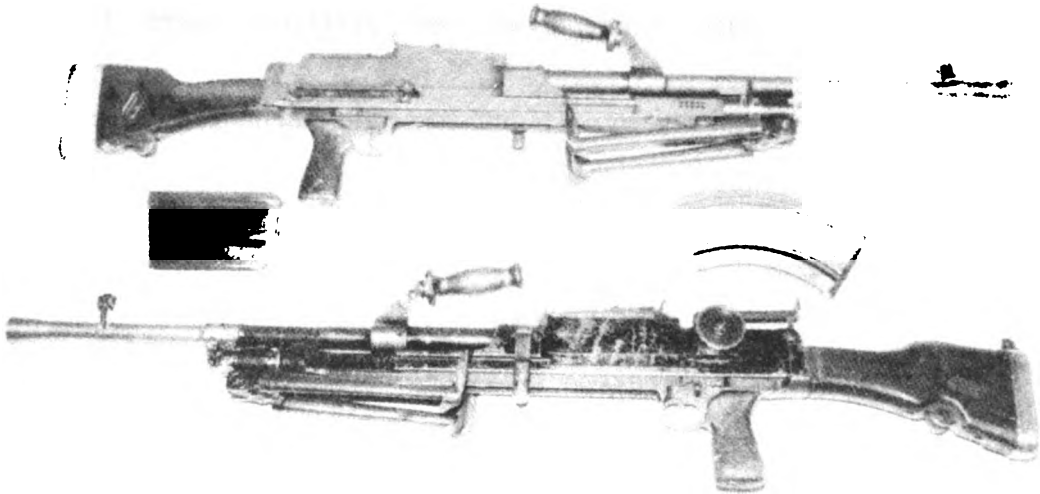

Figure 2.
7. Perform Function Check Within 20 Seconds. (See fig. 2.)